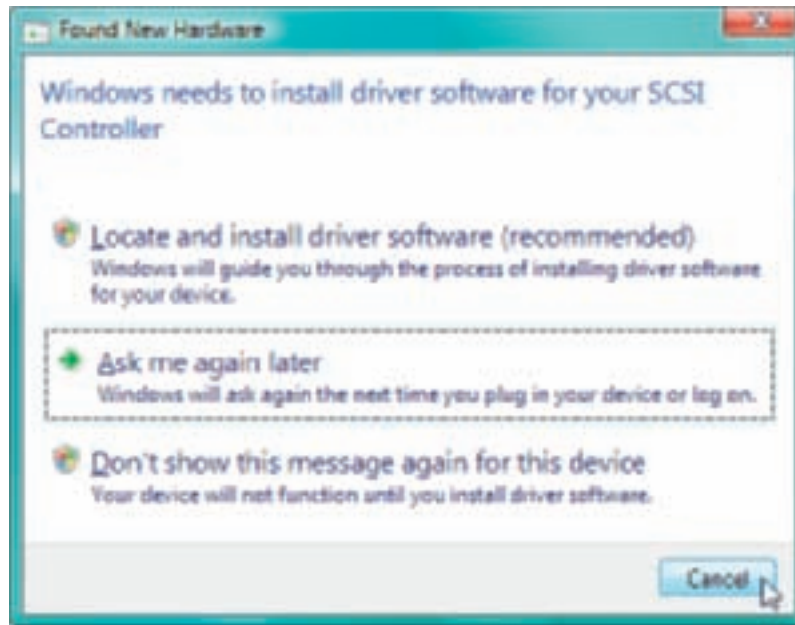

Figure 9-81 Vista wants to install drivers for the device it just found
2. Boot the computer. The Found New Hardware wizard finds the card and displays the message shown in Figure 9-81.
4. If you are using the Windows installation method, Windows displays the message in Figure 9-82. Insert the card's driver CD and click **Next**. (Notice in Figure 9-81 that Vista believes it is installing a SCSI host adapter when, in fact, it is installing a SATA controller. The confusion will clear up after the installation.) If the controller card supports RAID, you might need to choose between non-RAID and RAID drivers.